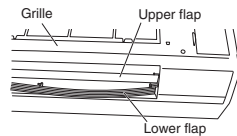

Fig. 3-84
- (5) Remove the lower flap by disengaging 4 pins of the lower flap in order. (Figs. 3-84 and 3-85)